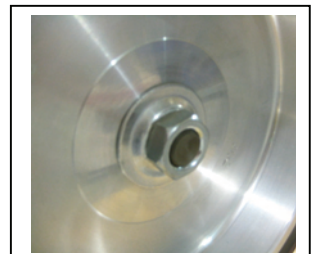

Fig. 2.3
3. Check the nut that secures the contact wheel (P/N 902 or 1002) to its mount. Insure this nut is tightened to 10 to 15 foot pounds of torque. (1.4 - 2 kg force metres) See Figure 2.3